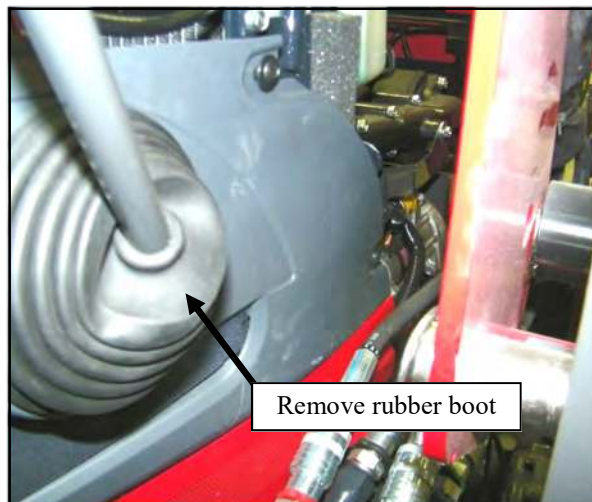

Fig. 1.4 (Rubber Boot)
1.4 Open the hood. Per Fig. 1.4, relocate the large rubber boot. Gently work the boot out of its retaining lip in the plastic air intake cover and slide it up the handle and out of the way for now.